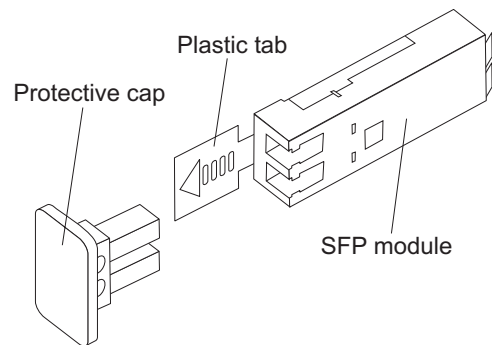

Figure 34. Installing an SFP module into the host port
4. Insert the SFP module into the host port until it clicks into place. See Figure 34.